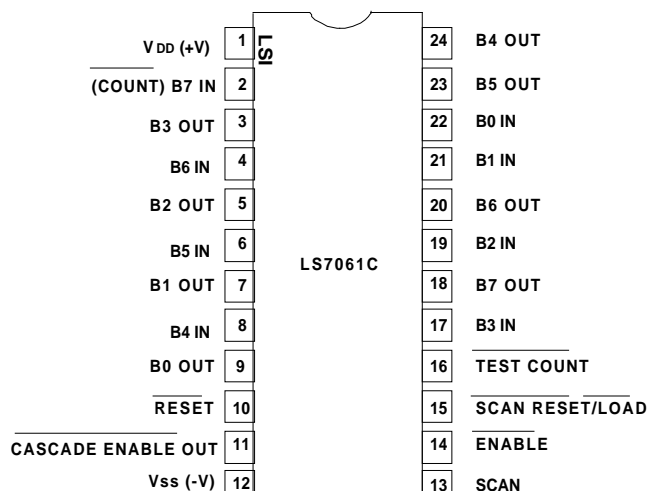

FIGURE 2
- LS7061C (DIP), LS7061C-S (SOIC) - See Figure 2